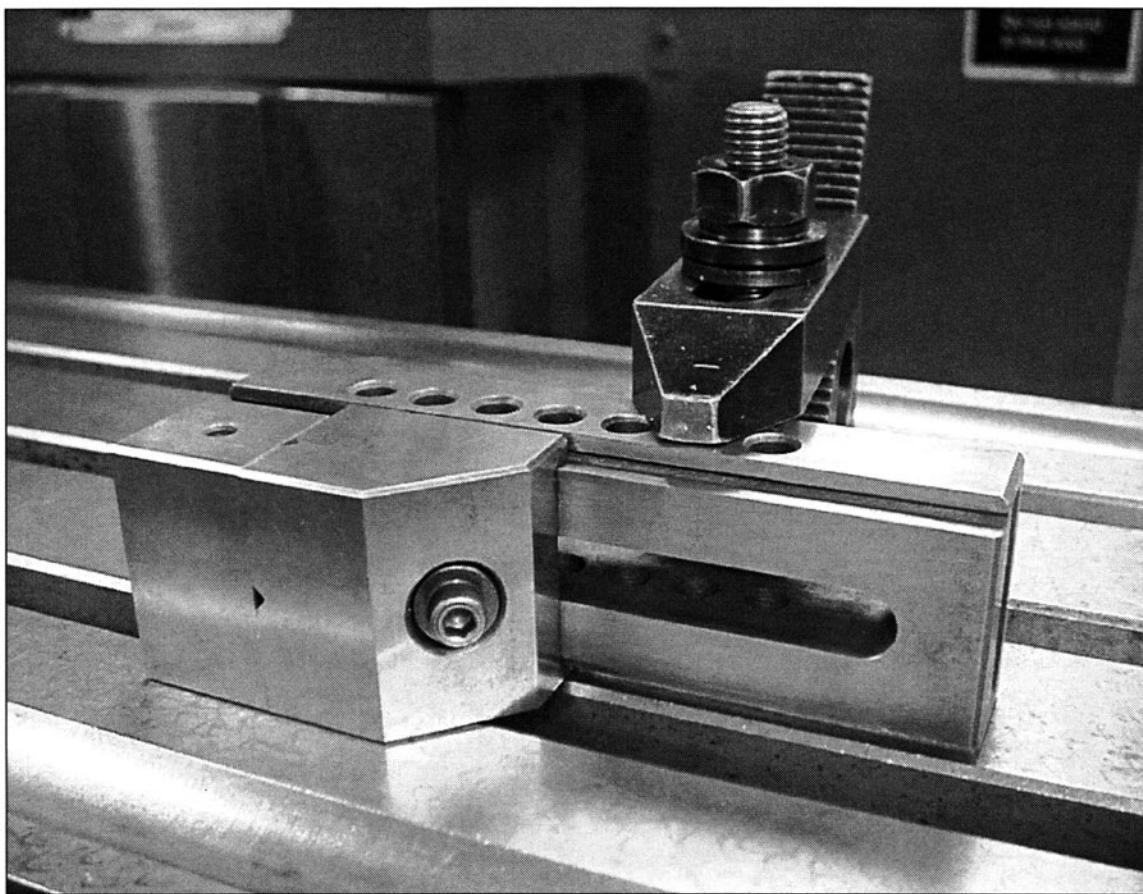

FIGURE 6-3 Clamping over “air” is almost always a bad idea. In this case the strap clamp could damage the vise if it were tightened down too tightly.
2. Avoid clamping over air. (See Fig. 6-3)